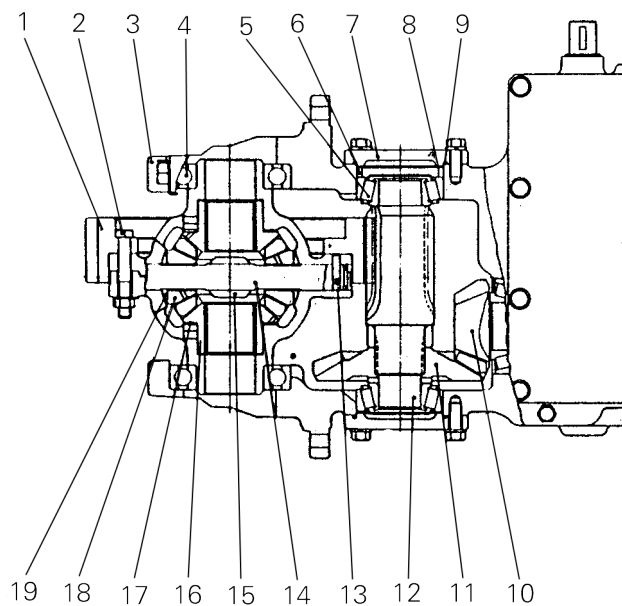

Fig. 3-12 Reduction gear & differential
3.3 Reduction Gear (See Fig.3-12)
3.4 Differential (See Fig.3-12)